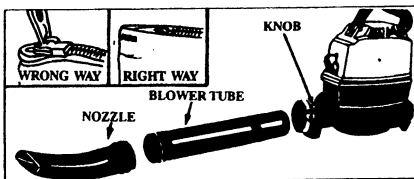

Figure 4
3. Close the zipper on the bag. Make sure the zipper is closed completely and is tucked toward the inside of the bag. Figure 4 (inset).
1. Loosen the Knob and remove the Blower Tube and Nozzle from the engine. Figure 4.